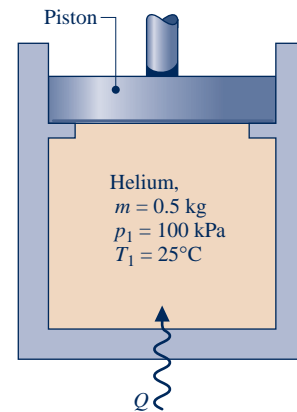

Fig. P3.122
- 3.122** As shown in Fig. P3.122, a piston–cylinder assembly whose piston is resting on a set of stops contains 0.5 kg of helium gas, initially at 100 kPa and 25°C. The mass of the piston and the effect of the atmospheric pressure acting on the piston are such that a gas pressure of 500 kPa is required to raise it. How much energy must be transferred by heat to the helium, in kJ, before the piston starts rising? For the helium, assume ideal gas behavior with $c_p = \frac{5}{2} R$.